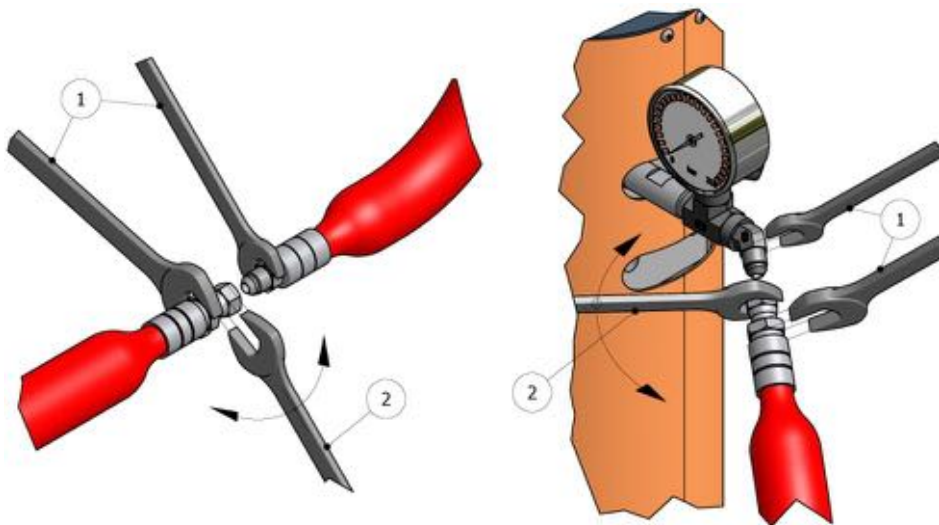

Figure 1. Method of union of the Hoses
WARNING! To join the hoses together or to connect them to the heaters or the gun, use two spanners to hold the parts to be joined (1) and a third spanner to tighten or loosen the connecting nut (2) as shown in the illustrations in Figure 1. The connections must be tightened to a torque of 20 Nm.